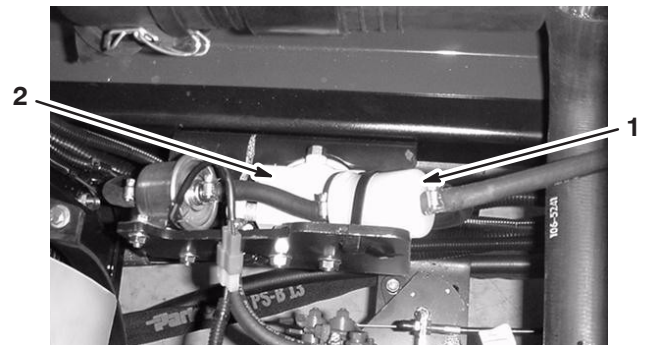

Figure 39
4. Loosen and slide the hose clamps away from the filter (Fig. 39).